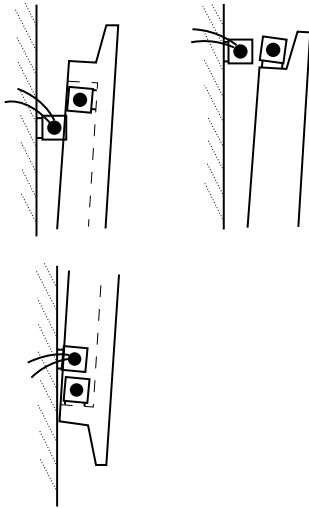

Figure 1.
- For surface mount, attach magnet to frame as in Figure 1.